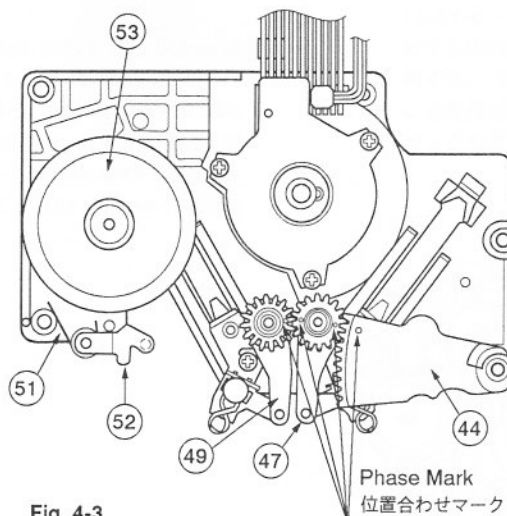

Fig. 4-3
• See that the phases of ④④, ④⑦, and ④⑨ are matched with each other, as shown in Fig. 4-3.
2. ③⑤ Sensor Block
• ④④, ④⑦, ④⑨ の位相はFig. 4-3を参照。